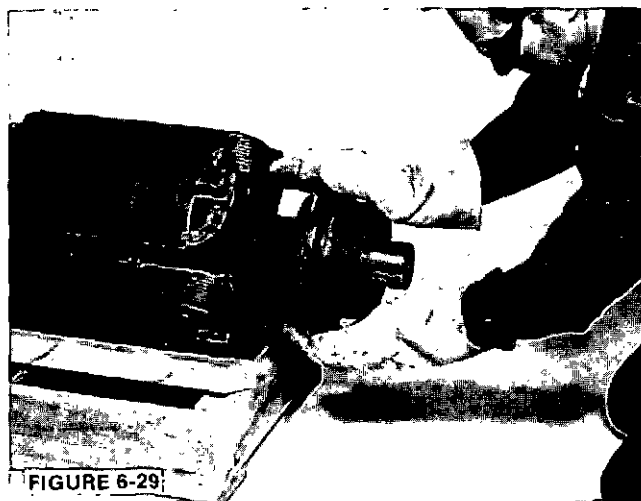

FIGURE 6-29
3. To insure proper fan location, mark the new hub in the same place as the old hub relative to the keyway. Install key in shaft. Heat the new hub in an oven to 500°-600°F (260°-316°C). Using suitable heat resistant gloves, slide the hub over the key in the shaft until it seats against the shaft shoulder. (Figure 6-29.)